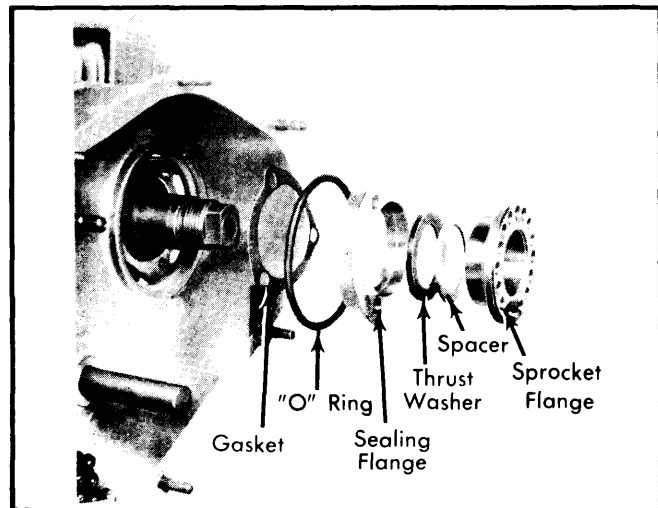

Fig. 3 Assembling Components to Install Camshaft Sprocket Flange and Sprocket
5) Install gasket, "O" ring, sealing flange, thrust plate, spacer, Woodruff key and camshaft sprocket flange as shown in Fig. 3. No provision is made to adjust camshaft end play, if sealing flange is worn, replace it.